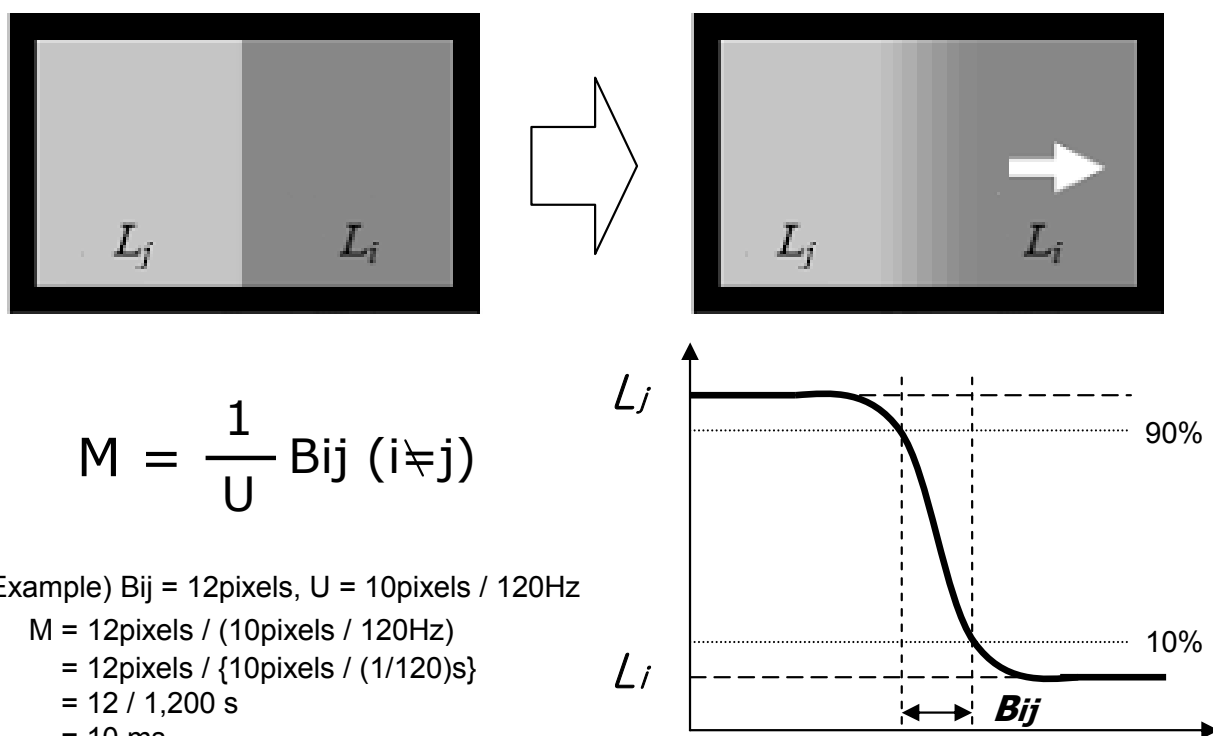

FIG. 4 MPRT
4. MPRT is defined as the 10% to 90% blur-edge width B_{ij} (pixels) and scroll speed U (pixels/frame)at the moving picture. For more information, see FIG 4
5. Viewing angle is the angle at which the contrast ratio is greater than 10. The angles are determined for the horizontal or x axis and the vertical or y axis with respect to the z axis which is normal to the LCD module surface. For more information, see the FIG. 4.